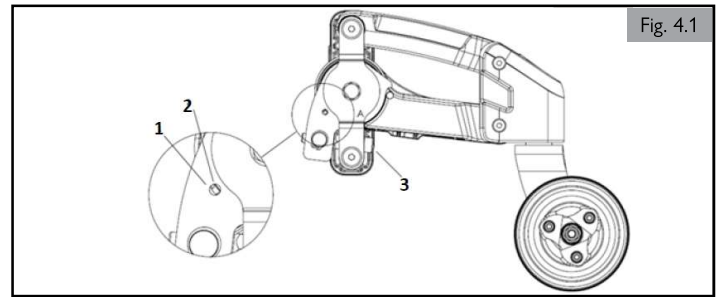

Fig. 4.1
4.7 Rear Dynamic Stabilizer Set up (Fig. 4.1)